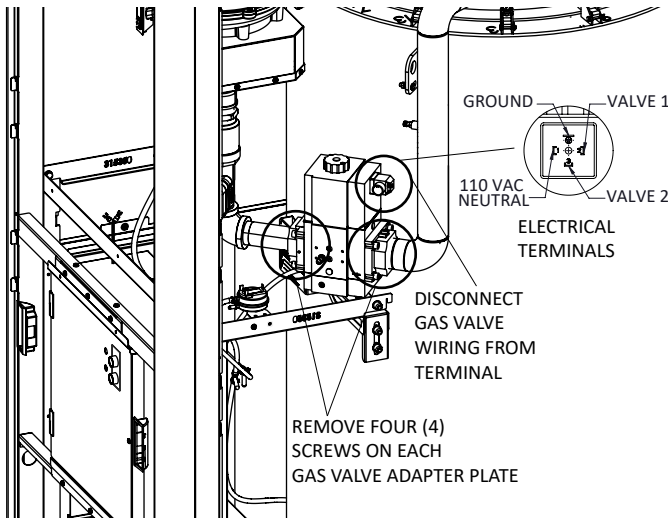

Figure 1. Remove Valve Wiring and Screws
6. Using a flathead screwdriver, remove the retaining screw securing the gas valve's wiring cover. Carefully lift and detach the wiring cover to expose and unplug the four (4) terminal connections. See **Figure 1**.
7. Using a 6 mm hex key, remove the eight (8) socket head cap screws securing the gas valve to the inlet and outlet flanges. Each flange is fastened with four (4) screws. See **Figure 1**.